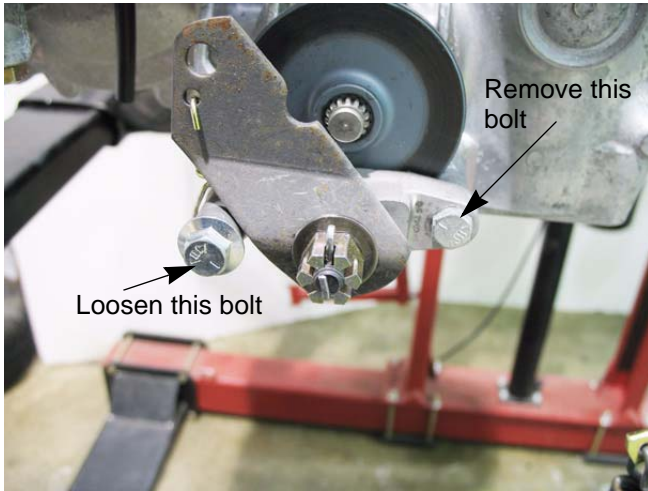

Figure 3.8
4. Loosen the rear mounting bolt. See Figure 3.8.